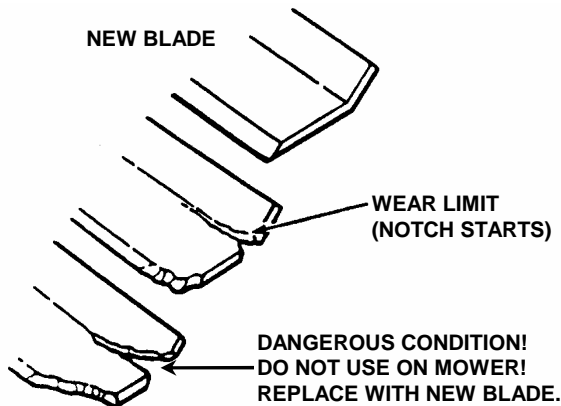

FIGURE 4.15
1. Inspect blade frequently for signs of excessive wear or damage. See Figure 4.15.
5. Remove blade(s). See Figure 4.15.